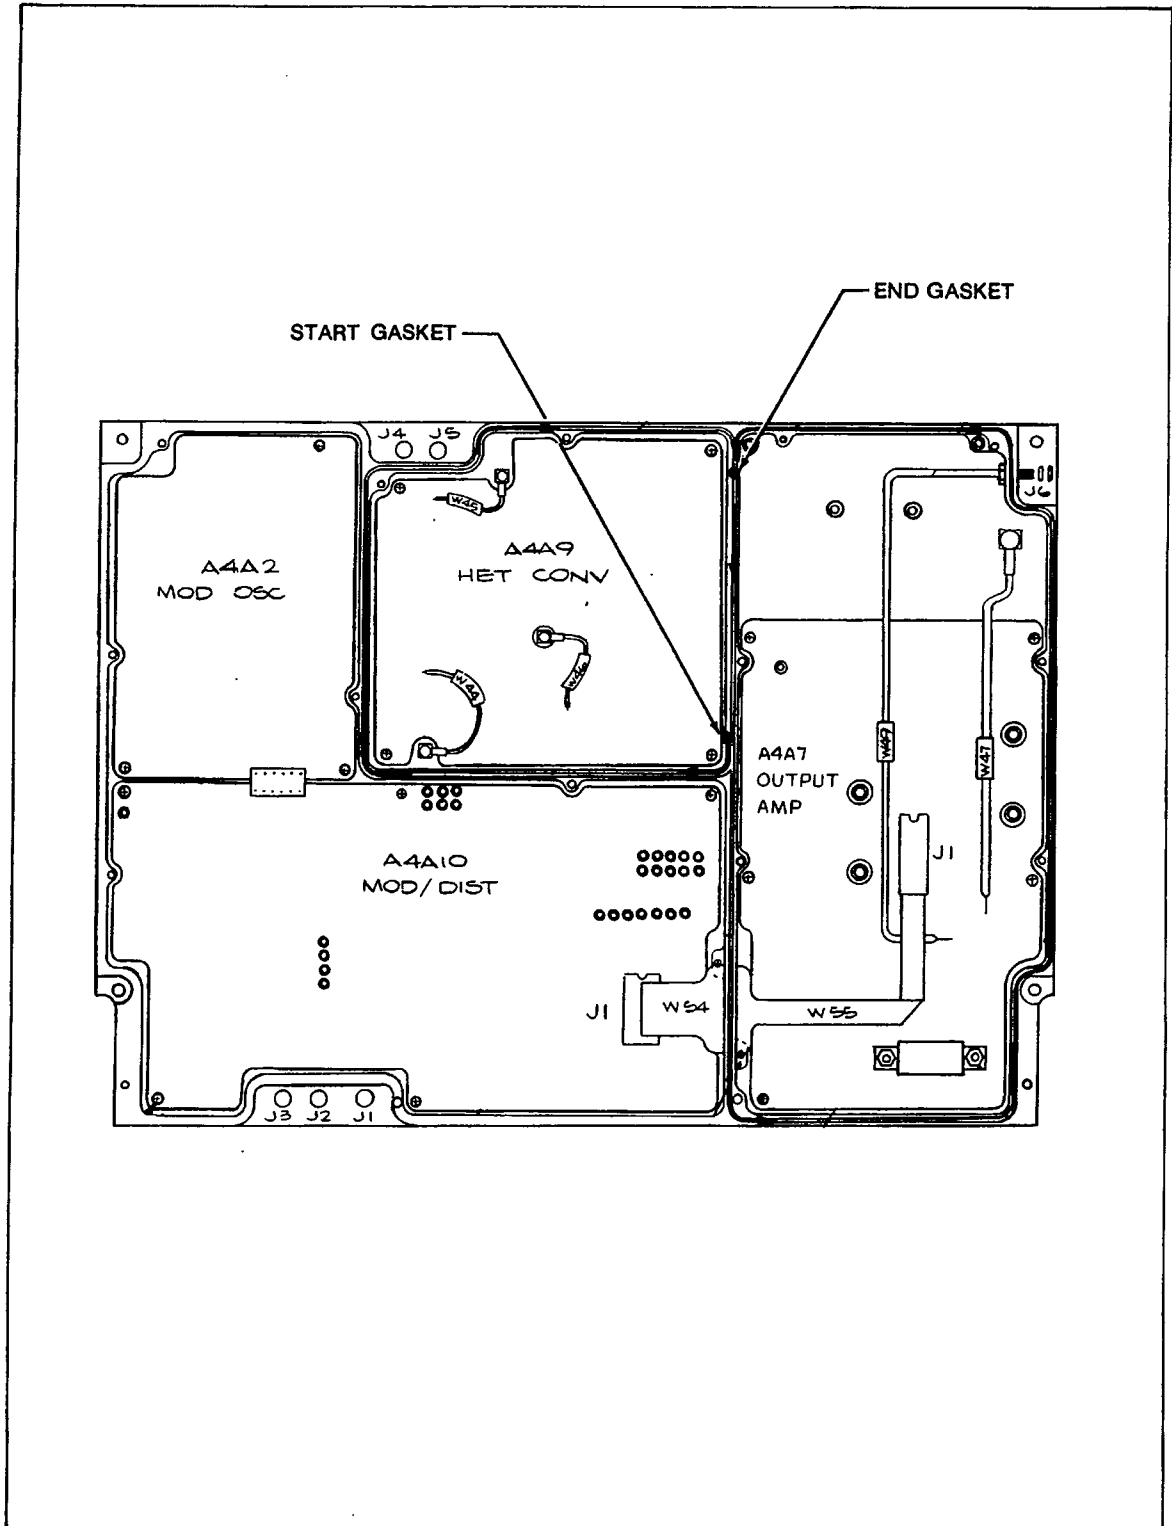

Figure 3-5. Bottom of Output Module
3-35. The A4A2 Mod Oscillator PCB, A4A6 X2 Output Amplifier PCB, A4A7 Output Amplifier PCB, A4A9 Heterodyne Converter PCB, and A4A10 Mod Distribution PCB are located in the bottom of the Output Module (Figure 3-5). The A4A7 Output Amplifier PCB is used only in the Model 6070A instruments. The A4A6 X2 Output Amplifier PCB is used only in the Model 6071A instruments. The access procedure allows access to the printed circuit boards for troubleshooting procedures. After the cover has been removed, the cover screws must be torqued back in place to insure specific RF integrity. Figures 3-5 and 3-12 illustrate the disassembly and assembly procedures.
1. Make sure the RF gaskets are in place (Figure 3-5) and inspect the RF gaskets for damage (areas that are folded over, worn, or pinched).